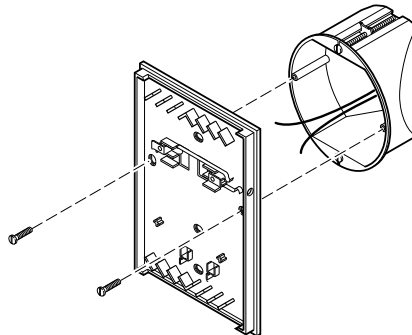

Figure-5 1/4 DIN Electrical Box Mounting.
3. Using two appropriate screws (not provided), mount the base plate to the electrical box ((Figure-5)).
3. Use two 6-32 x 5/8 in. flat head screws (not provided) to mount the base plate to the surface box (Figure-5).